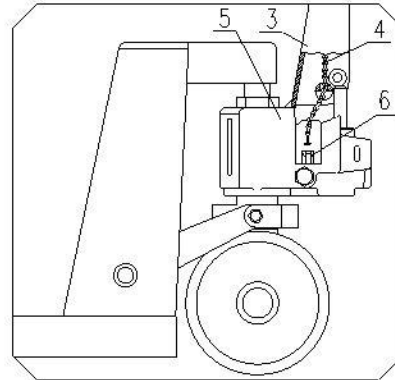
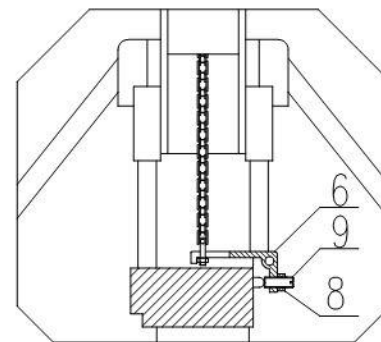

Fig. 2
Fig. 4
- 3.4 See fig. 2. Put the chain (4) of the handle through the middle hole of the coupling pin (1).
- 3.5 Take the screw nut which is at the end of the chain (4) and hitch it to the groove of the lever board (6). See fig. 2 and fig. 4.
4.2 The screw (9) in fig. 4 is used to adjust the truck operation. If the truck body drops immediately after it is lifted, you should turn the screw (9) a little counterclockwise and then try to operate the truck again until the truck body will lift normally. If the truck body cannot be lowered after it is lifted, you should turn the screw (9) a little clockwise and then try to operate the truck again until the truck body can lower normally. The external hexagon nut (8) at the screw (9) serves as a locking mechanism of the adjustment (screw). You should loosen the external hexagon nut (8) before adjustment and tighten the nut (8) after finishing the adjustment.